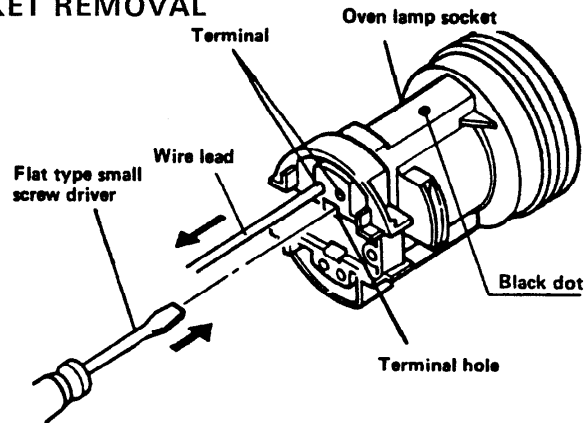

Figure C-1. Oven Lamp Socket
- 1) Hold the edge of the rotor of the fan motor by using a pair of groove joint pliers as shown Figure C-1(a)
5. Remove the two(2) screws holding the fan motor to the fan duct assembly.